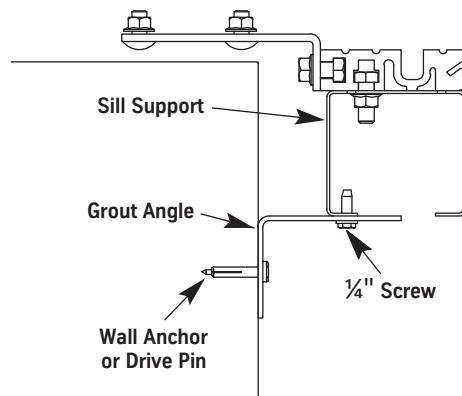

Figure 10 - Grout Angle Installation
1. Use self-tapping screws to install the grout angle on the bottom of the sill support and also tight against the hoistway wall. See Figure 10.